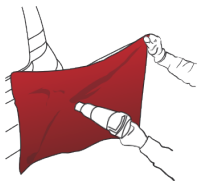
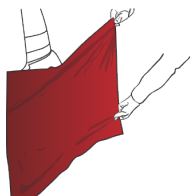

Figure 11
Figure 12
- › Heat the vinyl to a temperature ranging from 40 °C to 50 °C (from 104 °F to 122 °F) (FIG. 11), then stretch the film so as to completely wrap the convex surface. (FIG. 12)